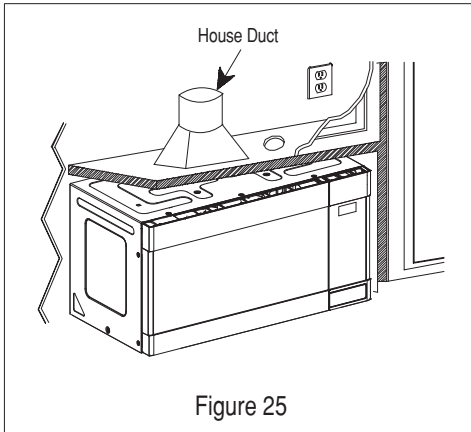

Figure 25
- Extend the house duct down to connect to the exhaust adapter. Seal exhaust duct joints using duct tape. See Figure 25.